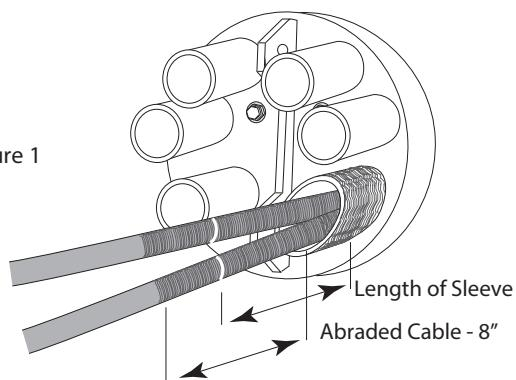

Figure 2
- Wrap one lap of aluminum tape around each cable, overlapping the white pencil mark by 1/2" as shown in Figure 2.